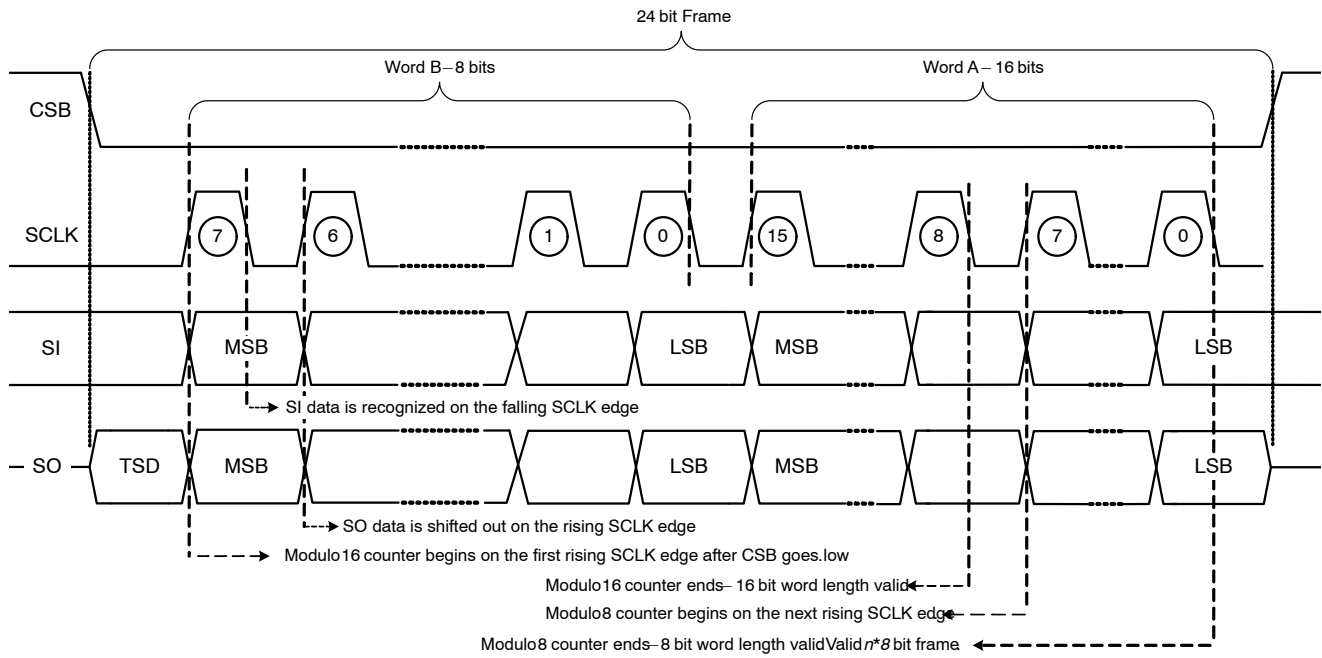

Figure 16. SPI Data Recognition and Frame Detection
Daisy chain communications between multiple of 8-bit SPI compatible IC's is possible by connection of the serial output pin (SO) to the input of the sequential IC (SI). The clock phase and clock polarity respect to the data must be the same for all the devices on the chain. Figure 15 illustrates the hardware configuration of NCV7718B/C daisy chained with a $n \times 8$ bit (ie $n = 2$; 16 bit) SPI device. The progression of data from the MCU through the sequential devices is also shown. Strict adherence to the frame format illustrated in Figure 16 is required for the proper serial daisy chain operations.